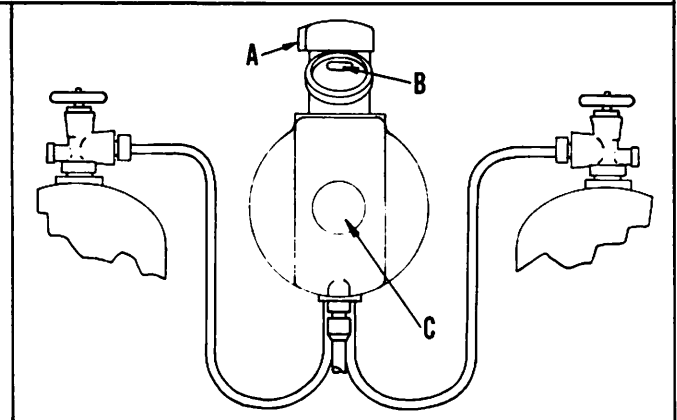

Figure 1—Typical installation
Install the regulator in an upright position as shown in Figure 1. Provide protection if necessary to keep ice or snow from covering the vent. Do not remove the vent screen because it prevents the vent from being clogged with insects.
Place one of the two cylinders in "Supply" by rotating the change-over knob (A), see Figure 1, either way as far as it will go. The arrow will denote "Supply" service side. Open both cylinder valves slowly.